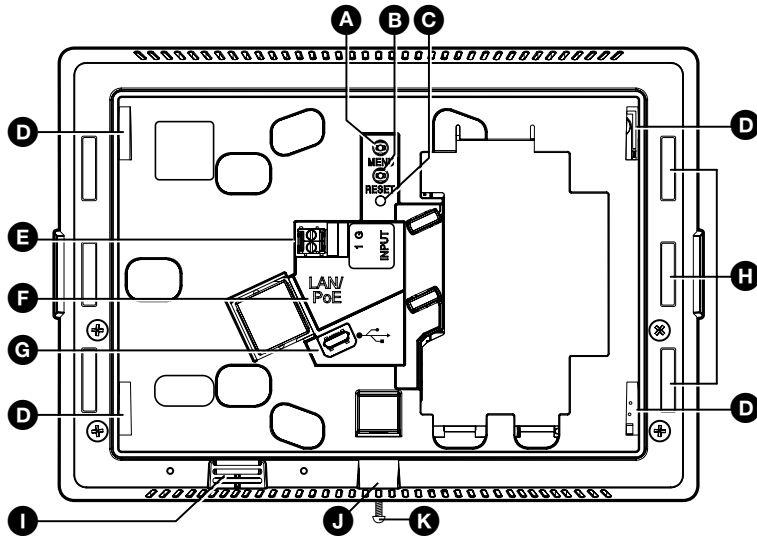

Figure 3. Rear Panel
4. The mounting plate has four hooks (③), one in each corner. Position the touch panel so that the four mounting slots in the rear of the touchpanel align (see figure 3, D, on the following page) with these hooks.